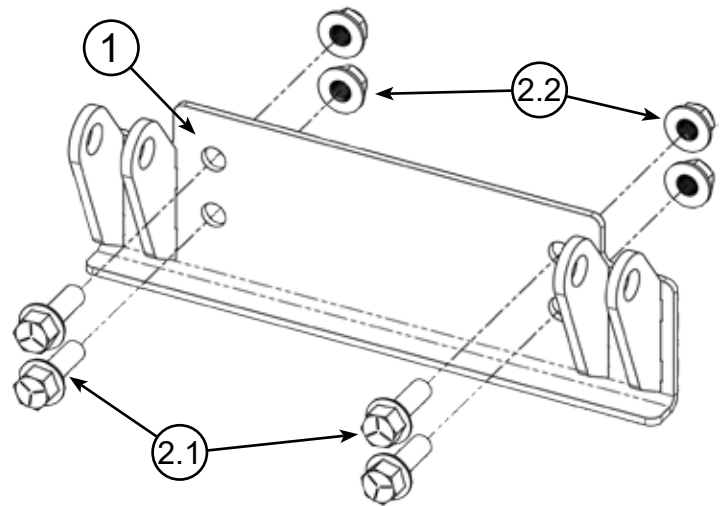

Figure 1
“Figure 1” Pivot Bolt Assembly
1. Install the pitch bushing (Item 7.6.1) into the blade gusset hole with the countersunk side facing inward. Secure the tube system to the blade using carriage bolt (Item 7.5.4), washer (Item 7.5.3), and lock nut (Item 7.5.2) as shown in **Figure 1**. Repeat on the opposite side.
1. Remove bolts (A) on front lower panel as shown in **Figure 1**. Bumper will stay in place.